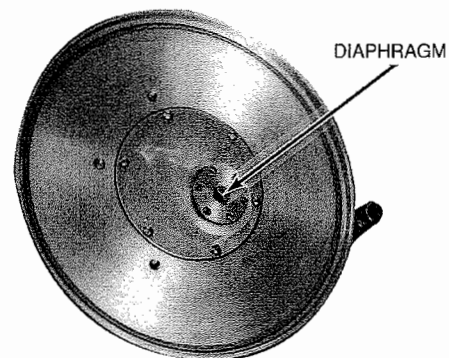

Fig. 17
8. Wipe the under part of the lid clean, including the diaphragm (Fig. 17).